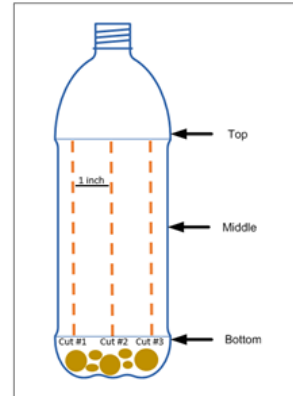

Figure 1. Modified Water Bottle
- Recycled and rinsed empty water bottle modified with slits (Figure 1)
2. Cut 4-6 inch equally spaced slits along the length of a plastic water bottle to allow water to flow through while still protecting the tampon from debris and sediment (Figure 1).